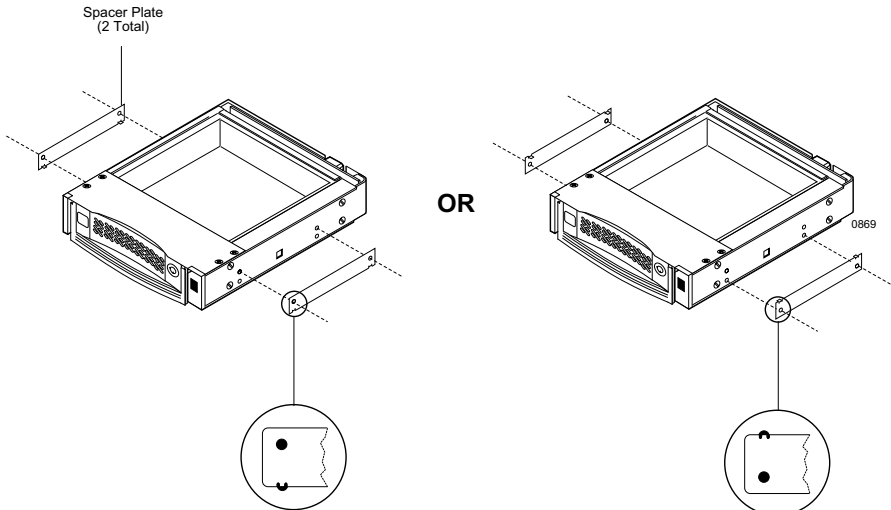

Figure 8B: Spacer Plate Installation (Optional)
**NOTE:** Depending on the computer system, spacer plates may be positioned on the receiving frame to utilize either top or bottom row of side-mounting holes (Figure 8B).